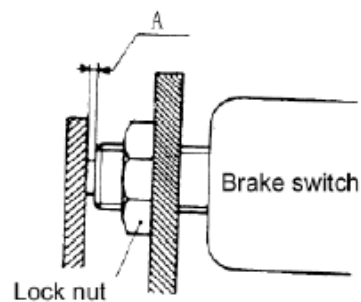

Fig. 2-27
- d) Make sure that when you press the brake pedal the brake lamp light at the same time. (See Fig.2-27)